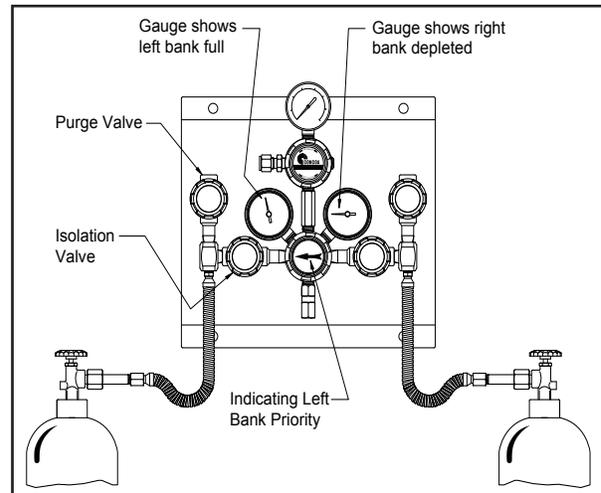

Figure 8B
9. Open the purge valve for 5 seconds to evacuate atmospheric containments (as illustrated in Figure 8B, if equipped).
7. Rotate the 619 priority valve away from the depleted cylinder bank illustrated in Figure 8B.